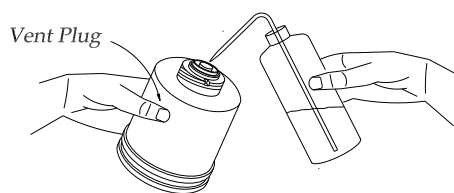

Fig. 4.2.6
7. To prevent contamination from the old electrolyte, rinse out the gas sensor interior twice with a small amount of fresh electrolyte (fig. 4.2.6)